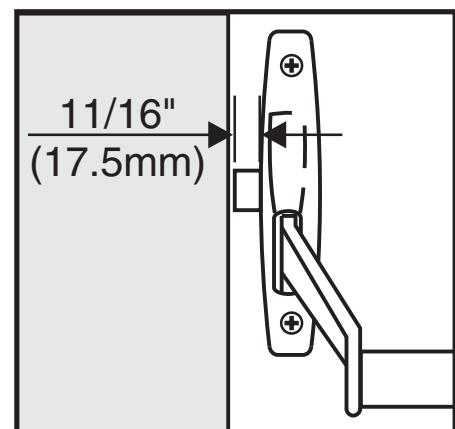

Figure 12
1. Latch should project 11/16" (17.5mm) when crossbar is in neutral position. (Figure 12)